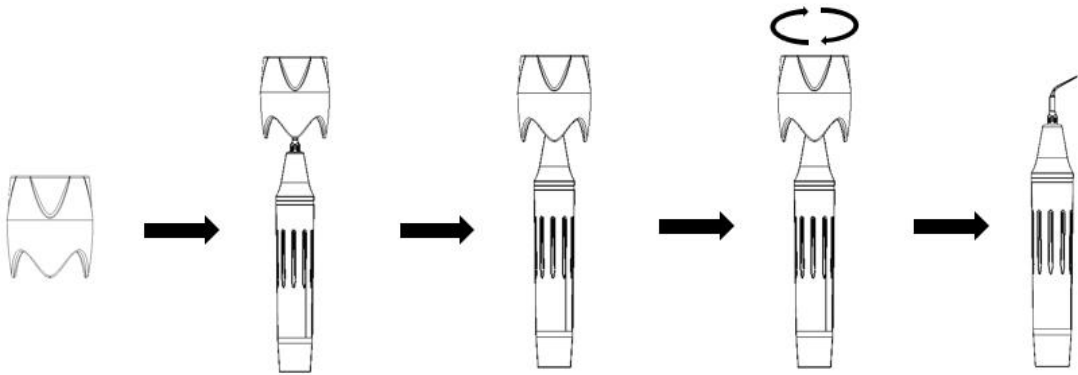

Figure 2.7
The design of torque wrench adopts a special structure, which can ensure the user can effectively load and unload the tip and protect the user's hand during use, and it can avoid be scratched by the tip when load and unload the tip(See Figure 2.7):
- 5) Fasten the tip to the handpiece with torque wrench (See Figure 2.7), and then